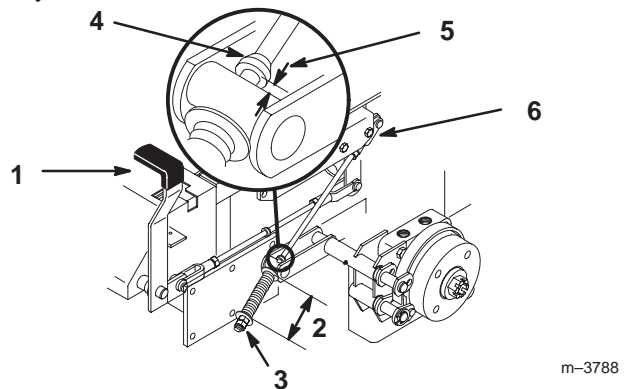

Figure 59
2. Measure the length of the spring. Measurement should be 2-3/4 inch (70 mm) between washers (Fig. 59).
3. If adjustment is necessary, loosen the jam nut below the spring and tighten the nut directly below the yoke (Fig. 59). Turn the nut until the correct measurement is obtained. Tighten the two nuts together and repeat on opposite side of unit.
6. Measure the distance between the trunnion roller and the collar on brake rod. Measurement should be 3/16-1/4 inch (5-7 mm) (Fig. 59).
7. If adjustment is necessary, loosen the jam nut directly below the yoke. Turn the bottom rod until the correct measurement is obtained (Fig. 59). Tighten jam nut at yoke.